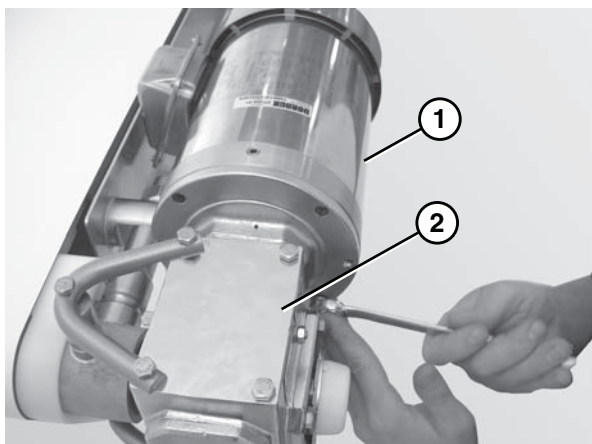

Figure 10
5. Attach the motor (Figure 10, item 1) to the gear reducer (Figure 10, item 1).